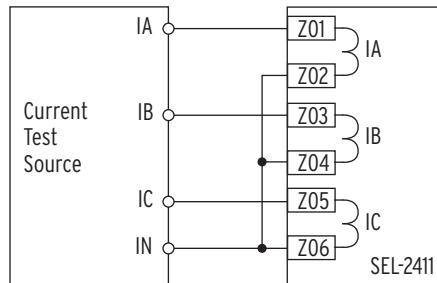

Figure 10.5 Current Source Connections
Step 1. Connect the current source to the device, as shown in *Figure 10.5*.
Step 1. Connect the current source to the device as shown in *Figure 10.5*.